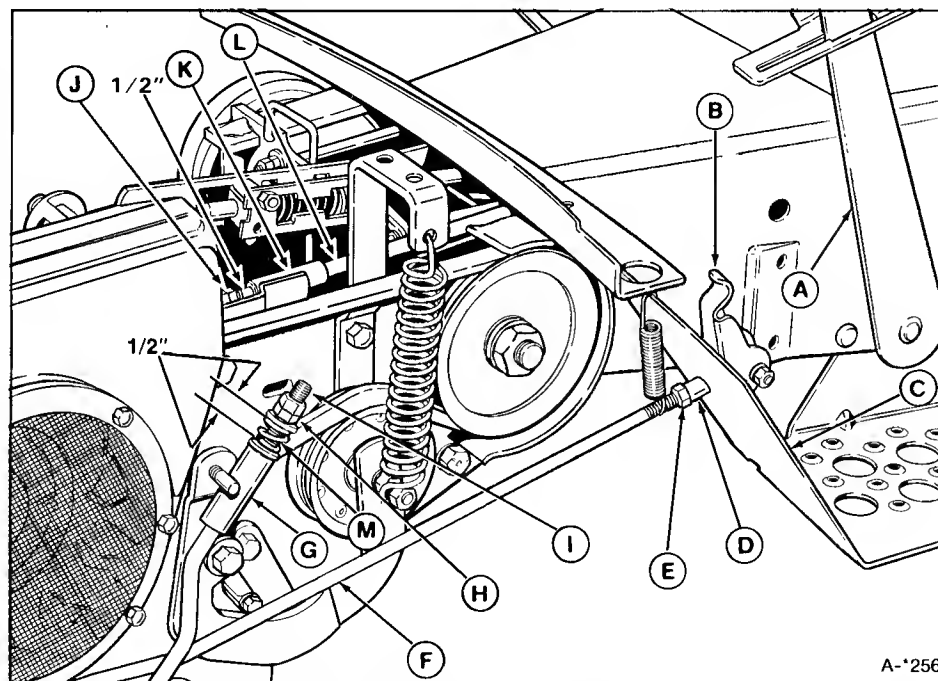

Figure 22. Brake & Clutch Adjustments - Hydrostatic
1. To adjust parking brake, loosen the jam nut (E, figure 22) at parking brake rod end. Rotate the parking brake handle (B) clockwise until it is tight and pulled up against fender as shown. Operate the brake handle to see if it is too loose or too tight. It should be tight against fender when set but not too tight to operate. When proper adjustment is made, tighten the jam nut.
2. To adjust the foot brake, engage the parking brake. Adjust jam nuts (H) on end of foot brake rod to provide 1/2 inch (12.7 mm) spring length between washers. (If not equipped with spring, see following note.) Depress the pedal to engage the brake. The drive belt should be slack and free of idler pulley. If not, check clutch adjustment (step 3). Test operate the tractor. If brake doesn't stop the tractor, see your dealer.
In step 2, on early models that are not equipped with spring (M, figure 22) adjust nuts (H) to achieve 1/2" clearance to rod guide (G). In step 3, adjust jam nuts (J) to achieve 3/8" clearance to rod guide.